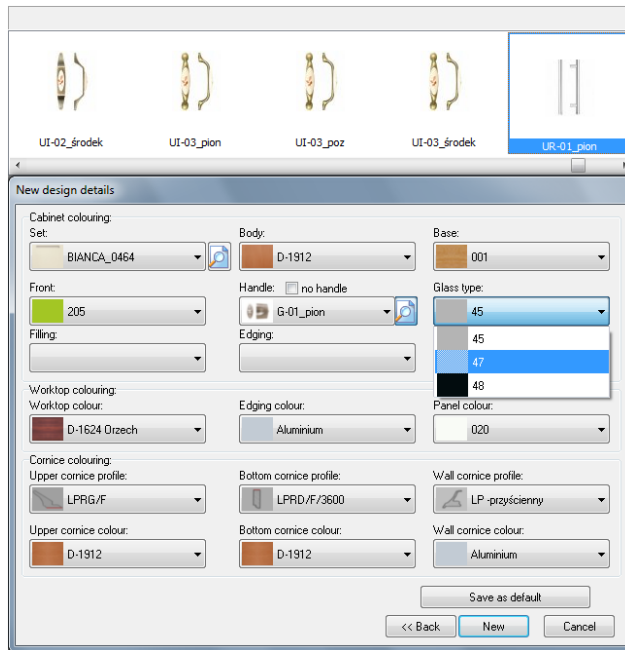

Fig. 49 – setting sets colour composition
- **Custom settings** – after choosing this option and clicking **Next >>** you can modify colours and types of all elements in the selected set: front, body, base, handles, glass, edgings, worktops, cornices etc. Your own composition may be saved as default – to do so, click **Set as default**, and then **Next >>** (Fig. 49).
While selecting the colour composition for the particular set, you can preview positions marked with this icon:  - this is fronts and handles (Fig. 49 above). The previews of available types will be displayed in the upper part of the window. To hide them, click the icon  again.